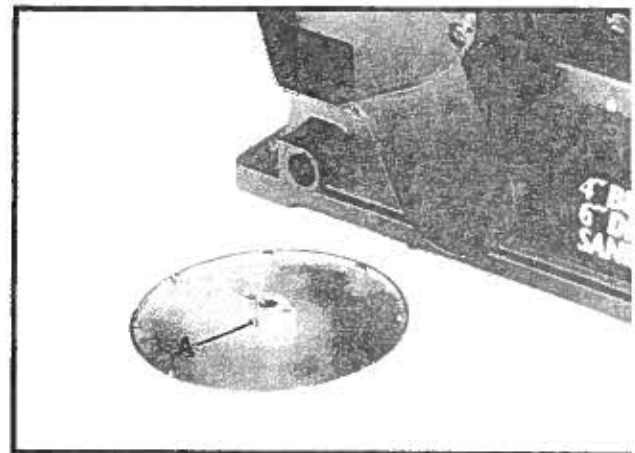

Fig. 6
1. Thread the 1/4" long set screw (A) Fig. 6, into the tapped hole on hub of sanding disc plate. **NOTE:** Just start screw (A) in hole.